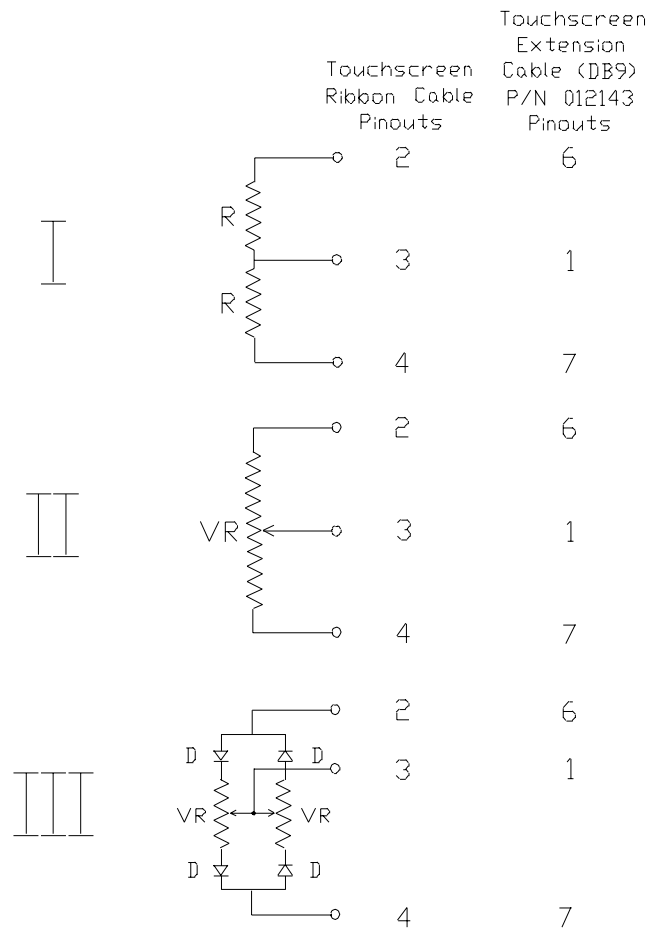

Figure A.1 AccuTouch Touchscreen Simulation Circuits
The simplest dummy touchscreen is the “paper clip test” described on page A-52. Another simple dummy touchscreen is shown in Part I of Figure A.1 on page A-56. This circuit will produce the action of a constant touch in the middle of a real touchscreen. The coordinates that the controller outputs will be about 2000,2000 when using ELODEV uncalibrated and the TOUCHES diagnostic utility. This circuit can also be modified by adding a switch between the junction of the resistors and the input to pin 3, and can then emulate a touch by closing the switch. Acceptable resistor values (R) are from 100-500 ohms, 1/4 watt or greater.
If a potentiometer is substituted for the two resistors in Part I of Figure A-1, the dummy touchscreen in Part II results. It simulates a touchscreen with touches moving from the upper left to the lower right as the pot is turned. Typical values would be 0-20, 4092-4095 at one extreme and 4092-4095, 0-20 at the other extreme. Potentiometer values (VR) from 100-1000 ohms are acceptable.